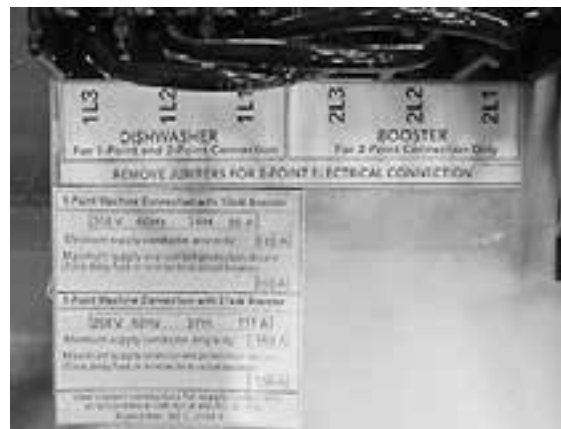

Fig. 13 - 1-point connection data plate
2. Cover the existing 1-point connection data plate, (Fig. 13), with the 2-point connection data plate, (Fig. 14), stowed in the plastic bag, (Fig. 15), next to the input terminal block.